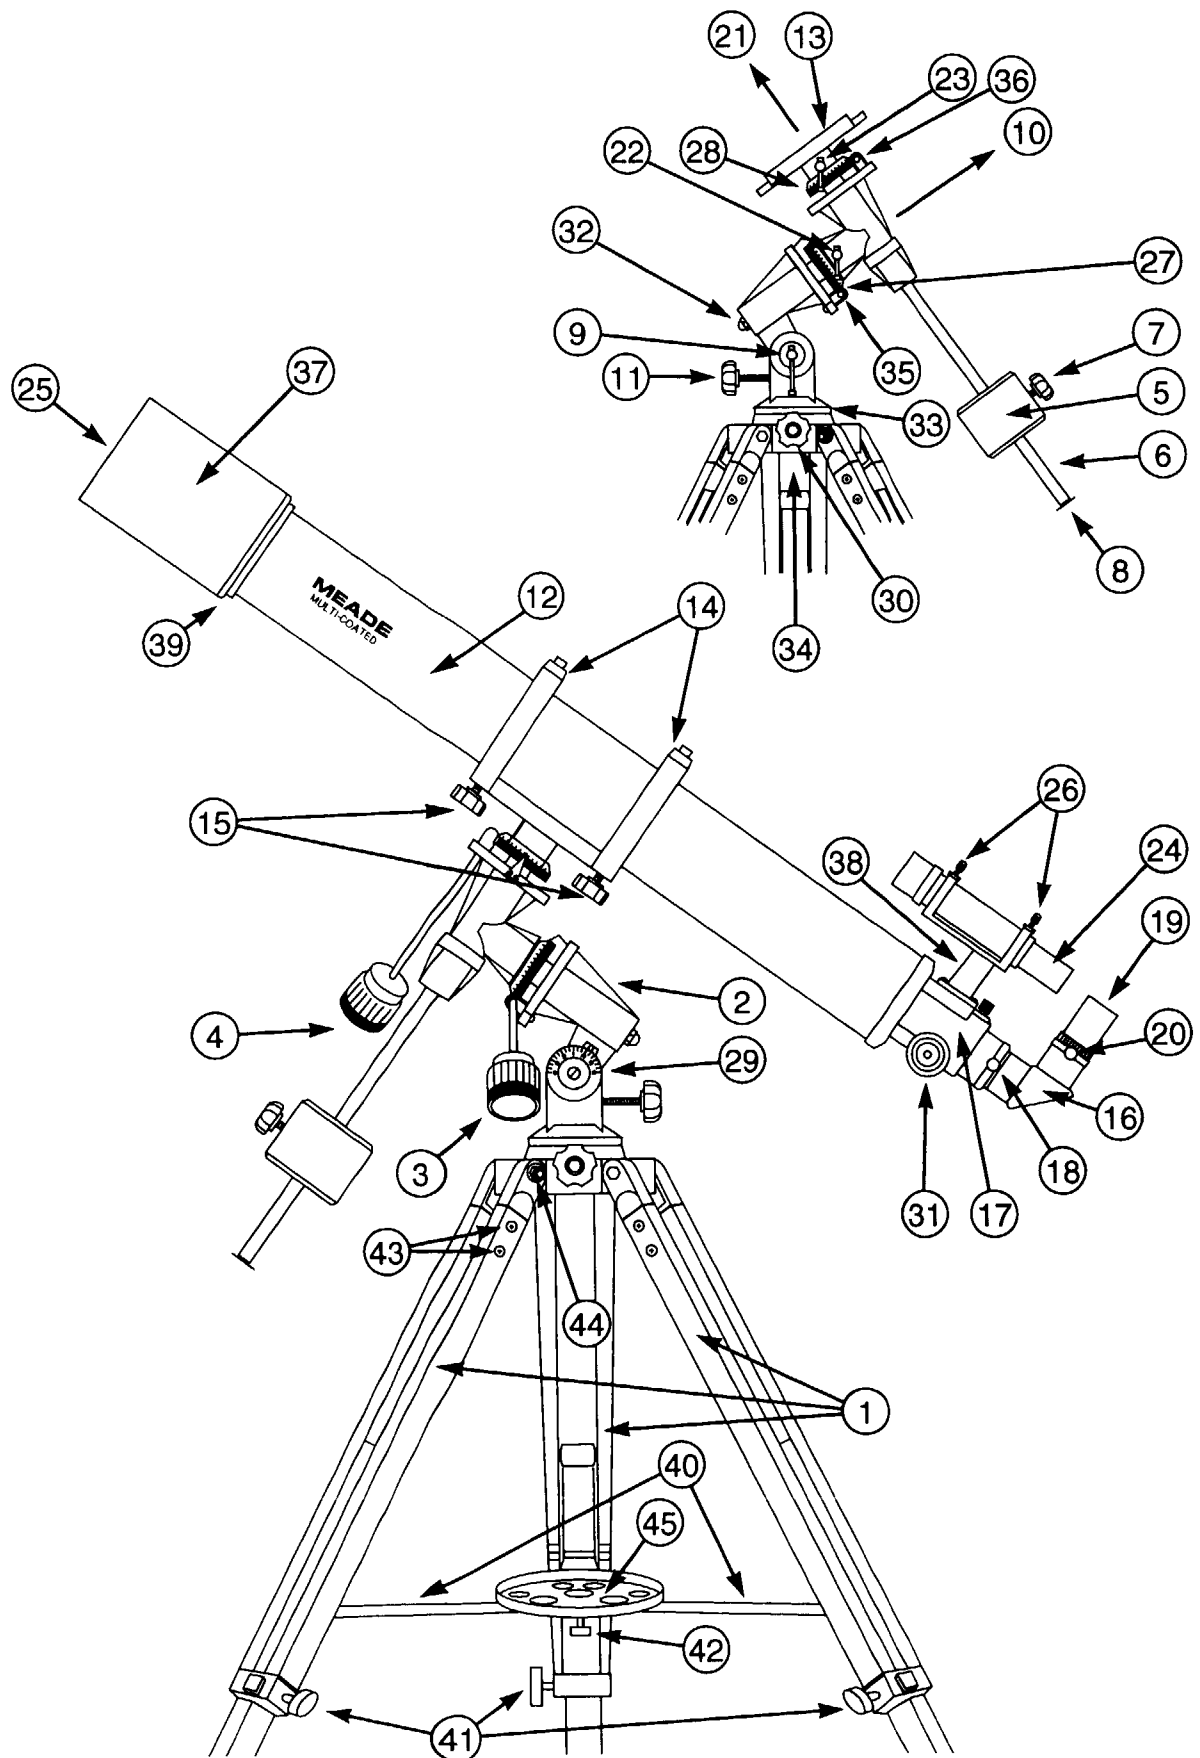

Fig. 1: Meade Model 395: 90mm Equatorial Refracting Telescope
Key to Fig. 1
B. Unpacking and Assembly (Numbers in brackets refer to Fig. 1, above)
Your Meade Model 395 comes to you packaged almost entirely pre-assembled. You will find upon opening the giftbox that there are two compartments within that contain the optical tube assembly and the tripod with equatorial mount. The accessories described above will be located within compartments custom-cut into the styrofoam block inserts. (References herein—e.g. (6)—are to Fig.1 unless otherwise specified.)
- The three tripod lock knobs (41) have been removed from the bottom section of each tripod leg to insure safe arrival of the tripod assembly. To install, thread in each tripod lock knob into the threaded hole located at the right side of each of the three gray colored castings (see illustration below) at the bottom of each tripod leg. Tighten the tripod lock knob only to a "firm feel" to avoid damage to the tripod caused by overtightening.
- Spread the tripod legs (1) to full extension so that the leg braces (40) are taut (should one of the tripod leg braces slip out of the center triangle fastener, merely reposition the brace and slide it back into position). Adjust the tripod with the attached equatorial mount (2) to the desired height by loosening the tripod lock knobs and extend the sliding inner section of each tripod leg; then tighten each knob.
- Remove the mounting knob (42) from the round accessory shelf. Place the accessory shelf on top of the center triangle leg brace fastener of the tripod so that the threaded stud protruding from the bottom of the accessory shelf (45) passes through the hole in the center. Then replace and tighten the accessory shelf mounting knob (42).
- Attach the flexible cable controls (3) and (4). These cable controls are secured in place with a firm tightening of the thumbscrew located at the end of each cable.
- The viewfinder bracket (38) comes pre-attached to the optical tube, but the viewfinder (24) is shipped separately. Place the viewfinder into the viewfinder bracket rings by backing off the thumbscrews. Then center the viewfinder in both bracket rings by backing off the three thumbscrews (26) on each bracket ring. Orient the viewfinder so its front objective lens is pointing in the same direction as the main
- Holding the counterweight (5) firmly in one hand, slip the counterweight onto the counterweight shaft (6). Attach the counterweight (5) and counterweight shaft (6), by supporting the unlocked (7) counterweight firmly in one hand, while threading the counterweight shaft into the base of the Declination axis of the telescope's equatorial mount with the other (see Fig. 1). Once firmly attached, slide the counterweight to the midpoint on the counterweight shaft and secure it in place with the lock knob (7) of the counterweight. Note: If the counterweight ever slips, the secured threaded safety washer/knob (8) will not let the weight slide entirely off the counterweight shaft. **Be certain that this safety washer/knob is always in place.**
- Release the latitude lock (9) of the equatorial mount, and tilt the polar axis (10) of the telescope to roughly a 45° angle by turning the latitude adjustment knob (11). With the polar axis thus tilted, firmly re-tighten the latitude lock.
- While firmly holding the optical tube (12) position it onto the optical tube saddle plate (13), with the midpoint of the optical tube's length lying roughly in the center of the saddle plate. Then slide the cradle rings (14) over the saddle plate of the mount. Tighten the cradle lock knobs (15) to a firm feel. Do not overtighten these knobs. Make sure the focuser mechanism is on the same side of the saddle plate as the Declination slow-motion control (4).
- Insert the diagonal mirror (16) into the focuser (17), and tighten the focuser thumbscrew (18), to secure the diagonal mirror.
- Insert the MA25mm eyepiece (19) into the diagonal mirror, and tighten the diagonal thumbscrew (20) to secure the eyepiece.
The wide field of view provided by the 6 x 30mm viewfinder permits easy object sighting prior to observation in the higher-power main telescope. The 6 x 30 Viewfinder (24) must be attached to the viewfinder bracket (38) as seen in Fig. 1. In order for the viewfinder to be functional, however, it must be aligned to the main telescope, so that both the viewfinder and main telescope point at the same position in the sky. With this simple alignment performed, finding objects is greatly facilitated, since you will first locate an object in the wide-field viewfinder, then you will look in the eyepiece of the main telescope for a detailed view. To align the viewfinder follow these steps:
- Remove the telescope front dust cover (25), and the dust covers of the viewfinder.
- Unlock the R.A. lock (22) and the Dec. lock (23) so that the telescope turns freely on both axes. Then point the main telescope at some well-defined land object (e.g. the top of a telephone pole) at least 200 yards distant, and re-lock the R.A and Dec. axes. Turn the flexible cable controls, (3) and (4), to center the object in the telescopic field.
- With the front of the viewfinder already centered in the front bracket ring, look through the viewfinder and loosen or tighten, as appropriate, one or more of the rear viewfinder bracket ring thumbscrews (26) until the viewfinder's crosshairs are likewise centered on the object previously centered in the main telescope.